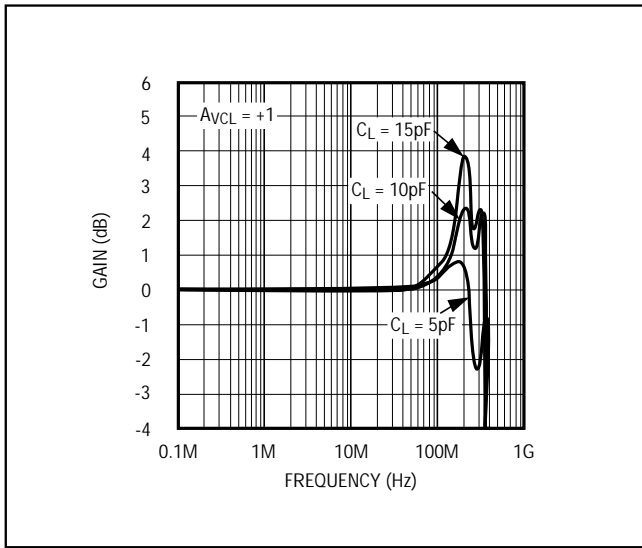
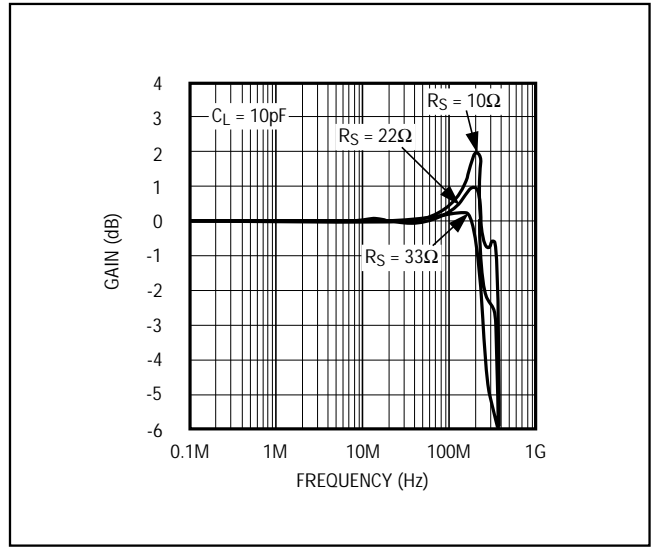

Figure 3a. MAX4102 Bandwidth vs. Capacitive Load (No Isolation Resistor (RS))
Figure 3b. MAX4102 Bandwidth vs. 10pF Capacitive Load and Isolation Resistor
When driving 50Ω or 75Ω back-terminated transmission lines, capacitive loading is not an issue. The MAX4102/MAX4103 can typically drive 5pF and 20pF, respectively. Figure 3a illustrates how a capacitive load influences the amplifier's peaking without an isolation resistor (RS). Figure 3b shows how an isolation resistor decreases the amplifier's peaking. By using a small isolation resistor